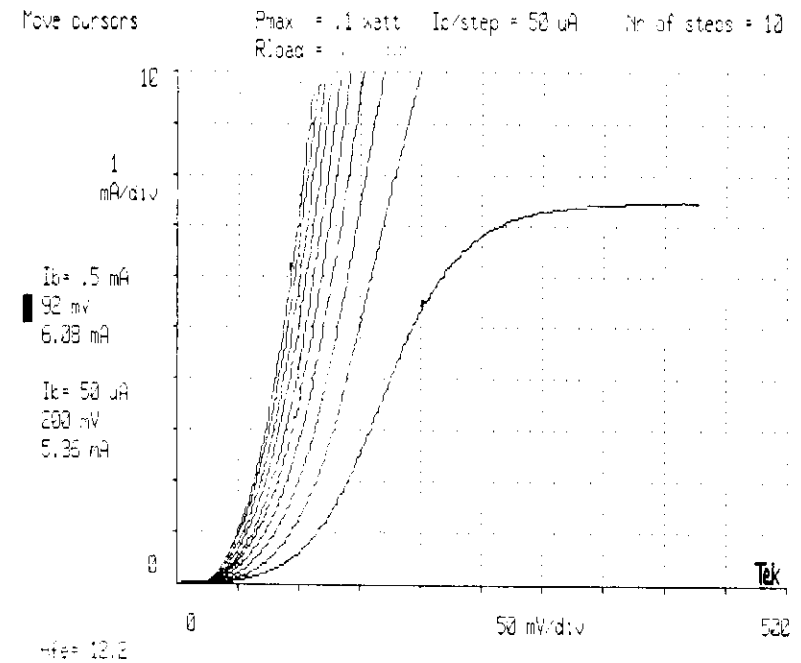

Figure 3-4: Transistor Saturation Area
- Step 3. Pressing START results in a set of curves in the saturation region of the transistor. Saturation voltages at a given current can be examined. (Figure 3-4)